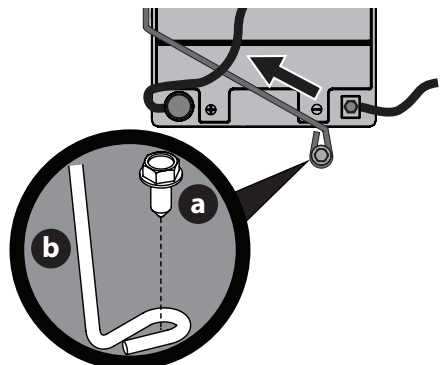

Figure 20
**NOTE:** Wiring harness should lay on top of battery hold down rod, otherwise damage to the wiring harness may result (Figure 20 on page 14).
- Remove the hex washer screw (a) securing the battery hold-down rod (b) up to free the battery (Figure 20).